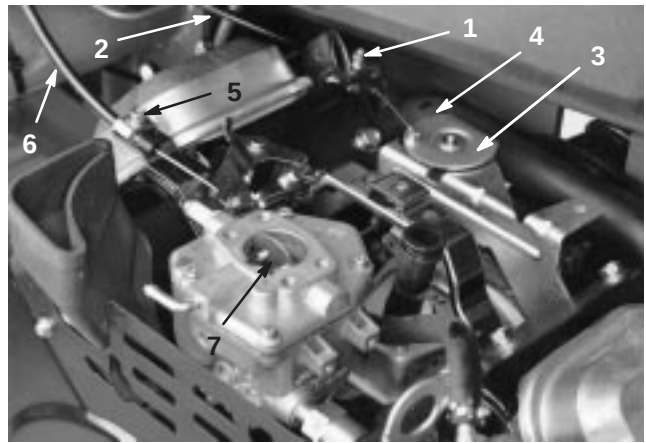

Figure 38
1. Loosen the cable clamp screw securing the cable to the engine (Fig. 38).
3. Pull firmly on the throttle cable until the back of the swivel contacts the stop (Fig. 38).
3. Pull firmly on the choke cable until the choke butterfly is completely closed, then tighten the cable clamp screw (Fig. 38).